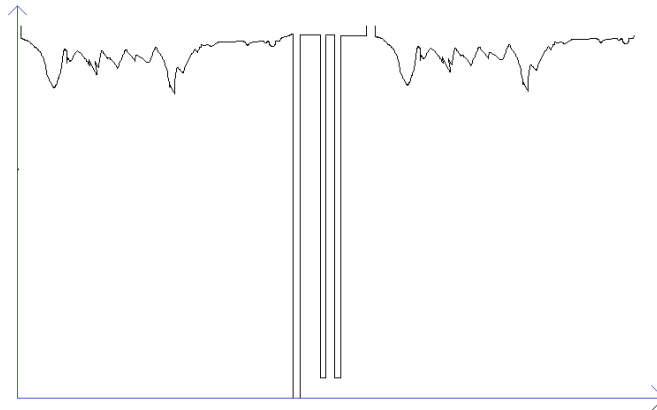

Figure 7, Atlas composite signal with correct analogue gain and offset.
5. Adjust the video input gain and offset so that only a small portion of the sync and initial azimuth pulse is visible. See Figure 7.
7. If the signal is negative as in Figure 7, set the “Data invert” configuration parameter.